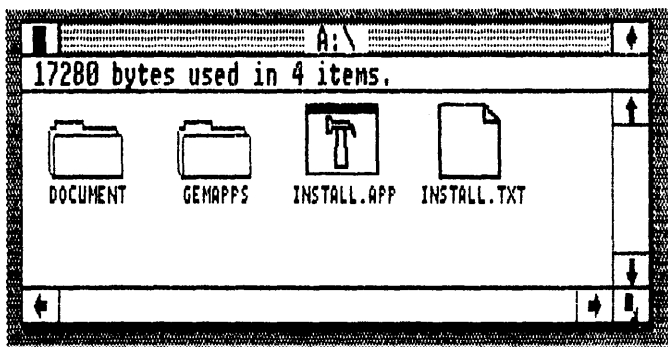

Fig. 3-15. Double-click on the INSTALL.APP icon for installing GEM Write.
- Double-click on the INSTALL.APP icon (Fig. 3-15).